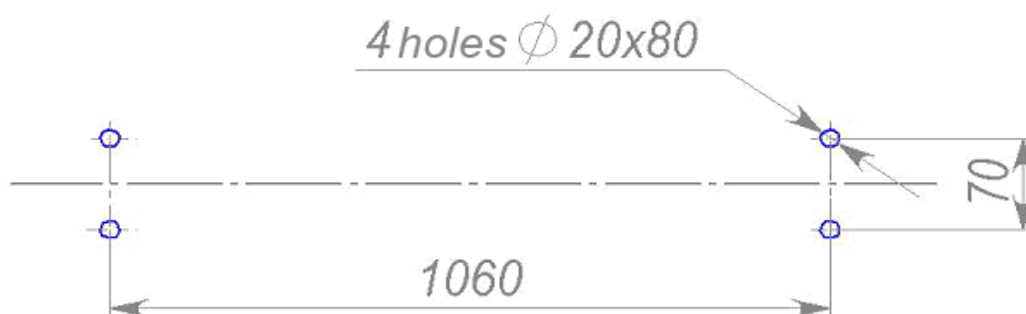

Fig 3. Mounting hole pattern
8.2.4 Mark out on the mounting surface mounting holes for the gate installation according to Fig. 3.